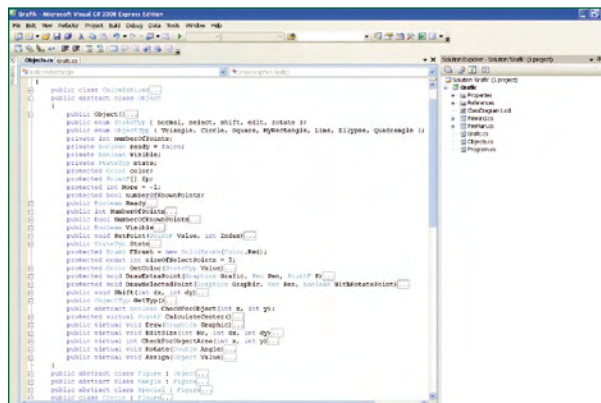

Figure 1. In Visual Studio we can display the Characteristics and Methods of an Object in overview form.
- Classes (hierarchy) of the drawing objects. These are packaged in the file *Objects.cs* (see **Figure 1**).